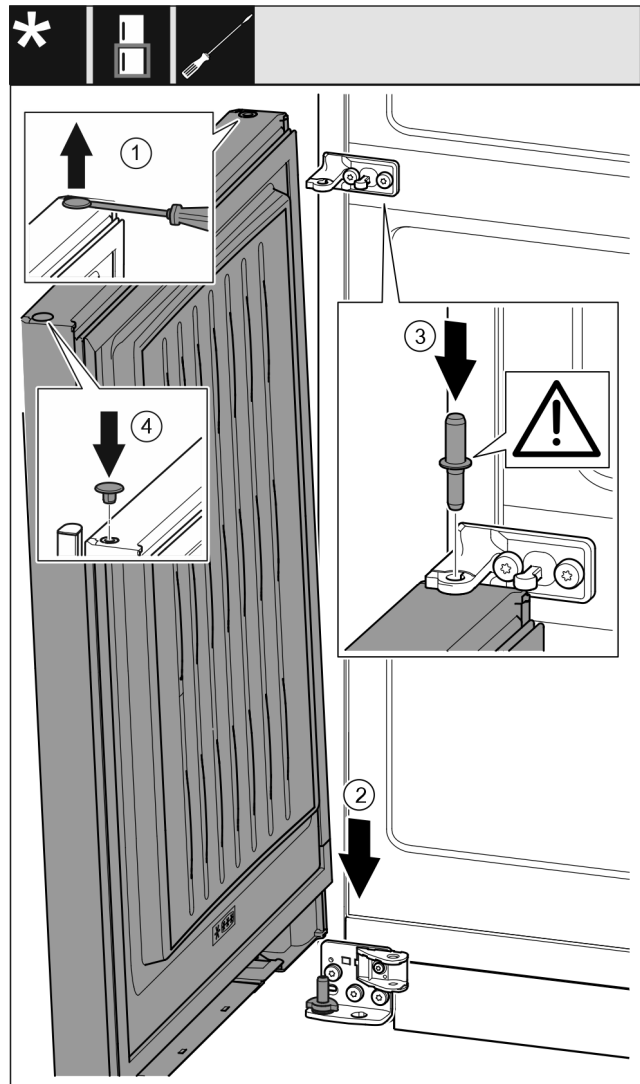

Fig. 41
- ▶ Carefully lift up the plugs with a slotted screwdriver and pull them out. Fig. 41 (1)
- ▶ Place the door onto the lower bearing pins from above. Fig. 41 (2)
- ▶ Insert the centre bearing pin through the centre bearing bracket into the lower door. Make sure that the latching lug is pointing to the rear. Fig. 41 (3)
- ▶ Insert the plugs again on the other side of the door. Fig. 41 (4)